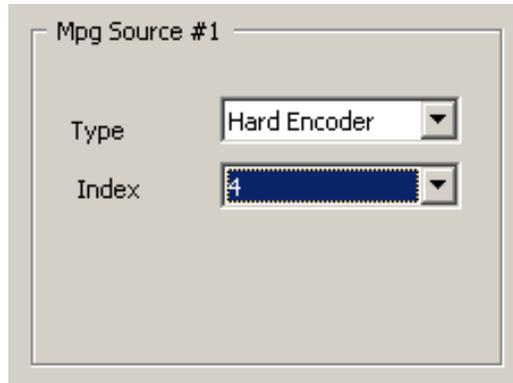

Figure 88 Pendant Configuration
4. Under the **MPG Source #1** on the main System tab, select the type **Hard Encoder**. See Figure 88.